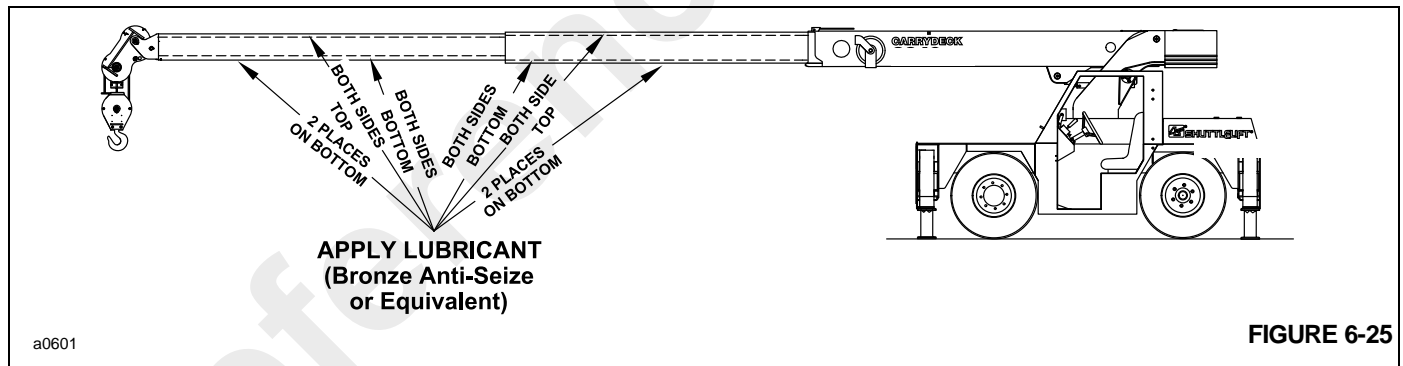

FIGURE 6-25
4. Apply bronze anti-seize, or equivalent, to the boom sliding surfaces (Figure 6-25) on the boom sections. Only use a small amount of lubricant for best results.